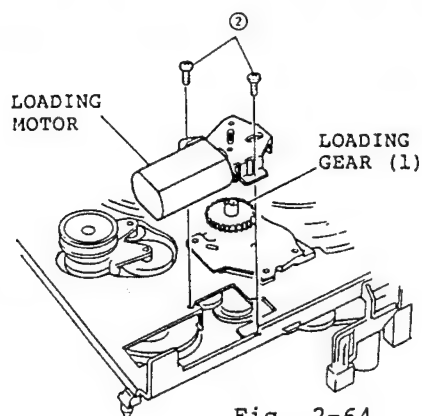

Fig. 2-64
2. Remove two (2) screws holding the loading motor. (See Fig. 2-64)